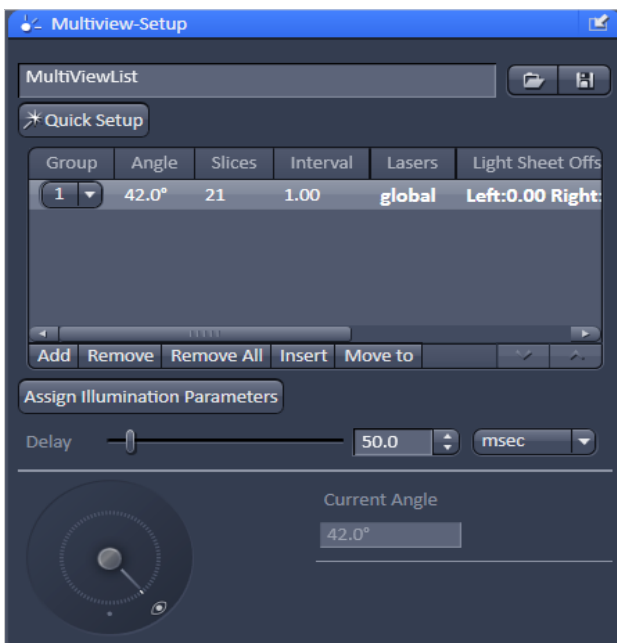

Figure 3 Multiview-Setup tool window
5. The **Multiview – Setup** tool window (Fig.3) and the **Z-Stack** tool window are now available.